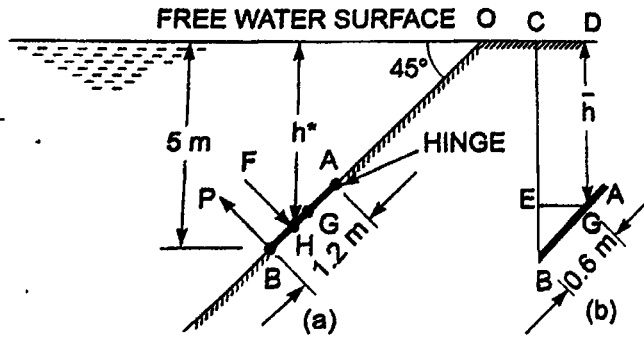

Fig.3
2. (a) An inclined rectangular sluice gate AB, 1.2 m by 5 m size as shown in the figure 3 is installed to control the discharge of water. The end A is hinged. Determine the force normal to the gate applied at B to open it.